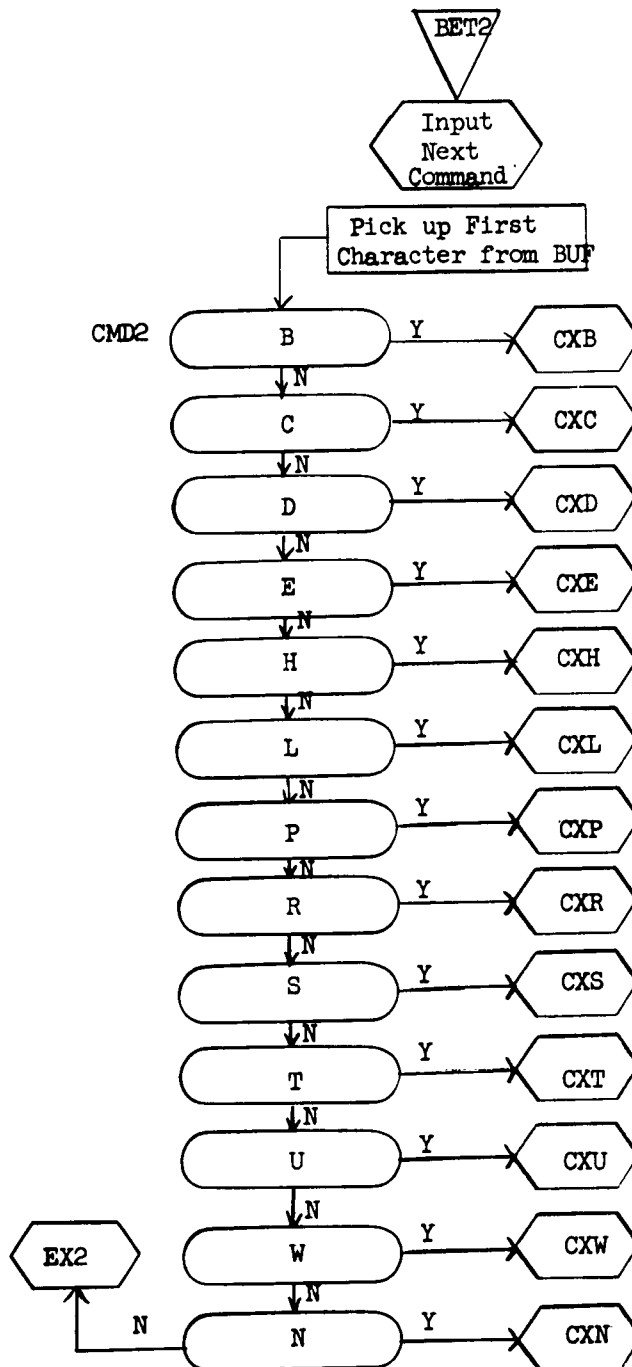

Figure 7.4 Command Test Sequence
#### 7.2.3 Command Input (Figure 7.4)
Figure 7.4 is schematic representation of the multiple switch involved in transferring to the proper command interpretation Subroutine.
- c. Increase CD1 by one and call OVF Subroutine. OVF merely checks to see if a Trap Table overflow has occurred. An overflow will cause the Trap Table to be deleted and transfer to BET2. (Figure 7.4).